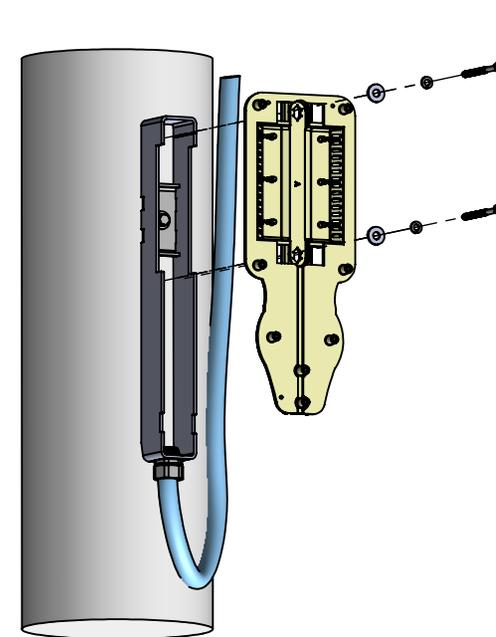

Figure 3
- Remove ground screw (do not lose screw) from terminal block area of push button station, and remove push button module from backplate. Mount push button backplate to bracket using two 3 1/2" long lag screws (1/4-10X3-1/2XXHHGV), two helical spring washer (HSR1/4HS), and two flat washers (FPA1/4-NSS) as shown in Figure 3, making sure top edge of backplate is flush to top edge of bracket.